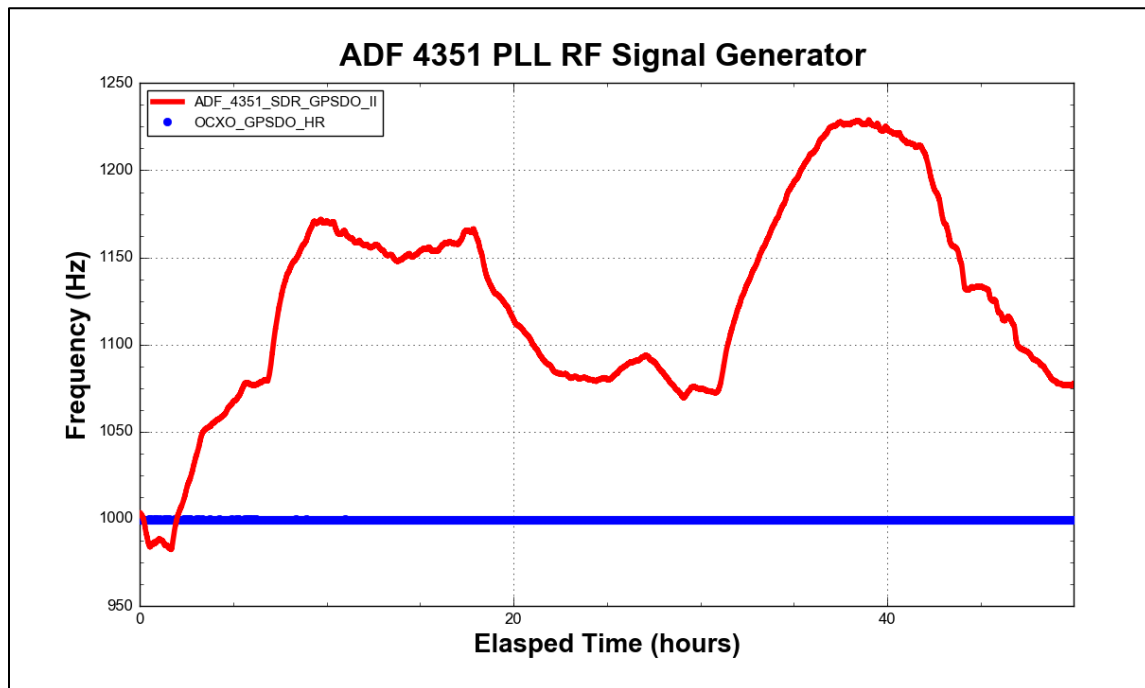

Figure 5 Frequency versus Time
Figure 5 illustrates data obtained through heterodyne frequency measurement technique. Fifty (50) hours of data with data sample period of 10 seconds (180,000 data values) was conducted. The **Red** coded data curve within Figure 5 is frequency variation / stability data obtained from the ADF4351 using its internal crystal-controlled reference source. A maximum frequency variation of 225 Hz was measured, with the ADF4351 set to an output frequency of 432.1 MHz. This indicates a frequency stability of ~ 0.5 ppm, which may be viewed as acceptable given the cost of the device.
However, my objective was to improve both accuracy and stability of the ADF4351 by using an external frequency reference source. I selected an available OCXO ($\sim \$100$ CDN) and repeated heterodyne frequency measurement experiment. The **Blue** coded data curve within Figure 5 is frequency variation for the OCXO. As shown within Figure 5, the external OCXO oscillator shows remarkably improved frequency stability compared to the internal “onboard” ADF4351 crystal oscillator.